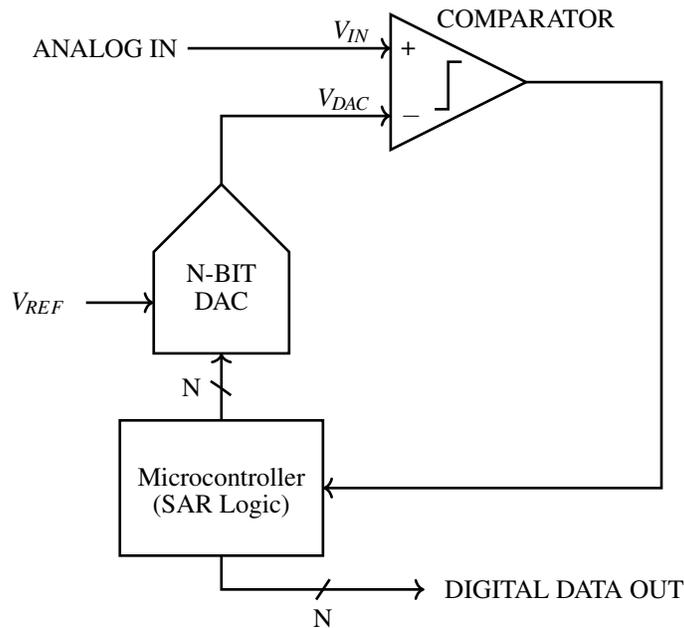

Figure 2: SAR ADC circuit diagram
The SAR ADC algorithm tries various binary “trial codes” by feeding them into a DAC to generate voltages and comparing the result with the analog input voltage using a **comparator**. It then uses feedback (**SAR logic**) to adjust the DAC voltage to get as close as possible to the analog voltage. The algorithm starts with the most significant bit (MSB), which is the bit with the largest binary weight (i.e. furthest to the left in a binary number). The circuit diagram of the SAR ADC is shown in Figure 2. The comparator outputs logic high (1) when $V_{IN} \geq V_{DAC}$ and logic low (0) when $V_{IN} < V_{DAC}$. An illustration of the algorithm is shown in Figure 3.
Let's walk through the operation of the N-bit SAR ADC shown in Figure 2 in detail.